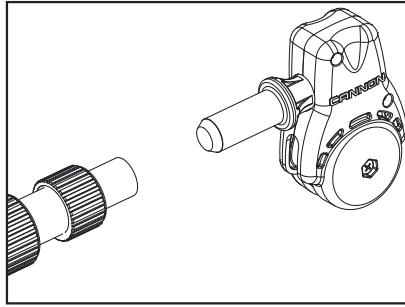

Figure 4
1. Locate boom end assembly and then insert boom end post into end of the small tube of the boom assembly. (Figure 4)